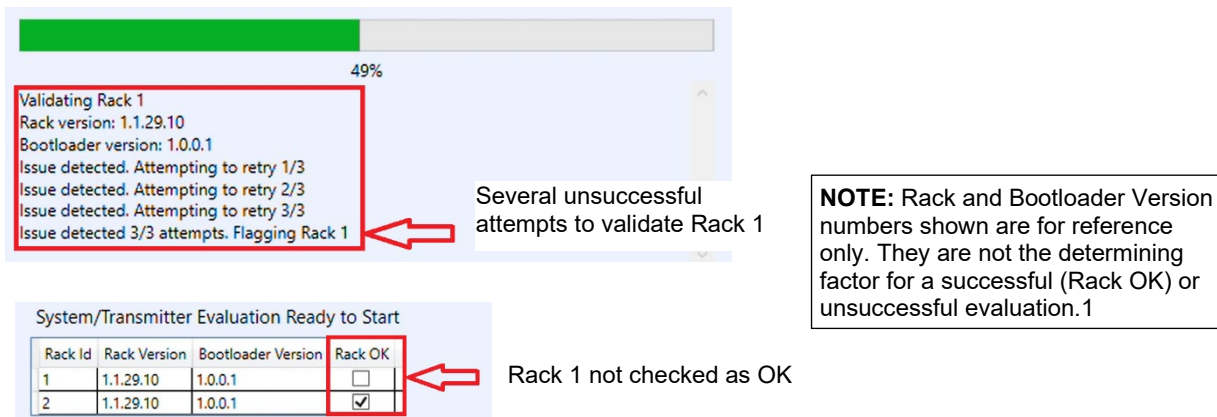

Figure 5: SHEEP unsuccessful progress and completion screen
- (j) If an evaluation discovers an issue with one or more racks, there will be messages like those shown in Figure 5. SHEEP will make several attempts to retry a rack evaluation, before flagging the rack with an issue.